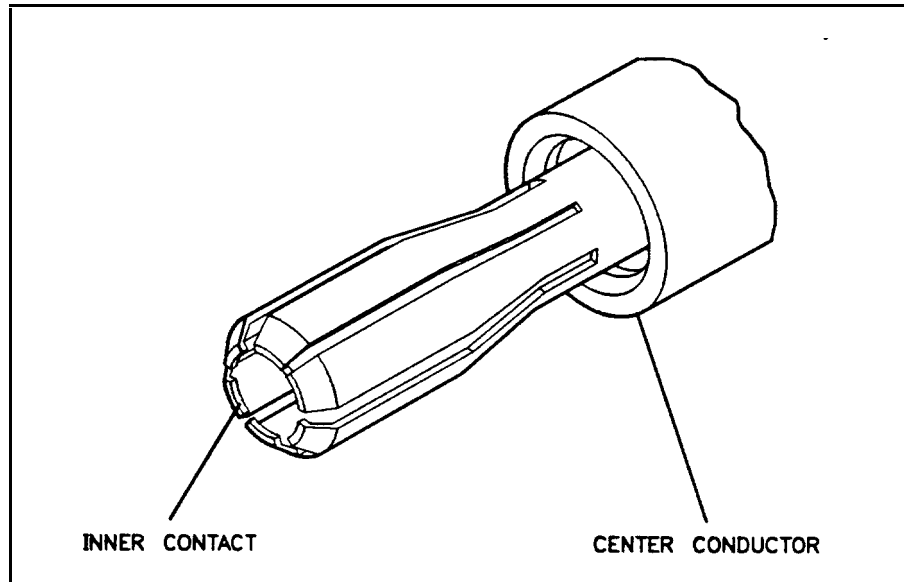

Figure 2-5. The Inner Contact and Center Conductor
- Step 1** If one or more of the inner contact's fingers are bent inward or crushed, you must straighten or remove those fingers before you remove the entire inner contact. Figure 2-5 shows both the inner contact and the center conductor.